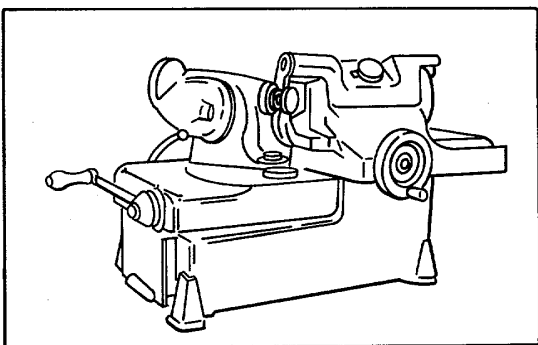
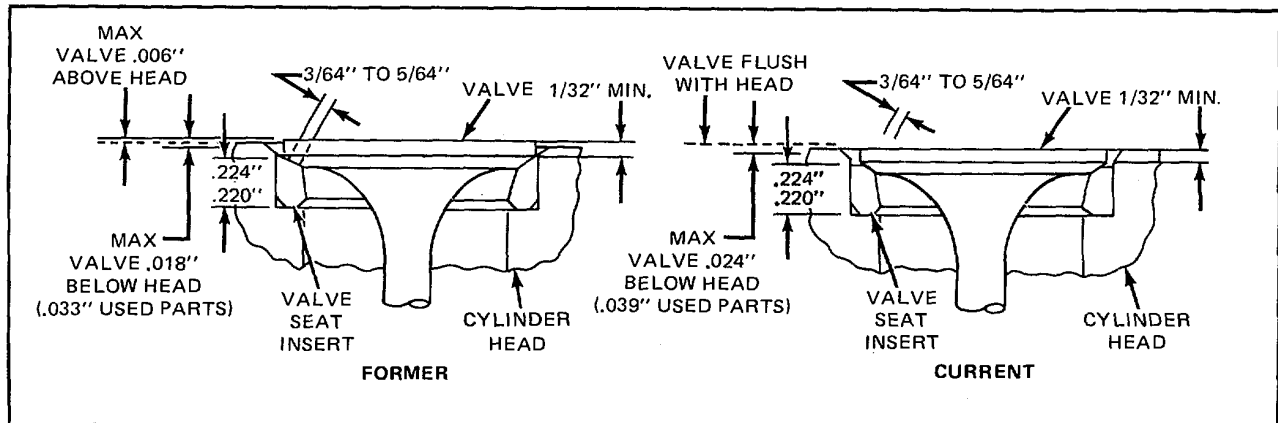

Figure 11. Refacing Exhaust Valve
Figure 13. Relationship Between Exhaust Valve, Insert, and Cylinder Head
An exhaust valve which is to be reused may be refaced, if necessary (Fig. 11). To provide sufficient valve strength and spring tension, the edge of the valve at the valve head must not be less than 1/32 inch in thickness and must still be within the specifications shown in Fig. 13 after refacing.
3. Then grind the top surface with a 15° wheel to narrow the width of the seat from 3/64 to 5/64 inch (Fig. 13). The 31° face of the insert may be adjusted relative to the center of the valve face with 15° and 60° grinding wheels.
The maximum amount that the exhaust valve should protrude beyond the cylinder head (when the valve is in the closed position), and still maintain the proper piston-to-valve clearance, is shown in Fig. 13. Grinding will reduce the thickness of the valve seat insert and cause the valve to recede into the cylinder head. If, after several grinding operations, the valve recedes beyond the specified limits, replace the valve seat insert.
When installing exhaust valves, check to see that the valves are within the specifications shown in Fig. 13. Also, do not use N-pistons with former four-valve cylinder head assemblies unless the valves are flush with the cylinder head. If the valves are not flush, it may be necessary to regrind the valve seats so that the valves will be flush with the bottom surface of the cylinder head.
9. Check the position of the exhaust valve (Fig. 13).